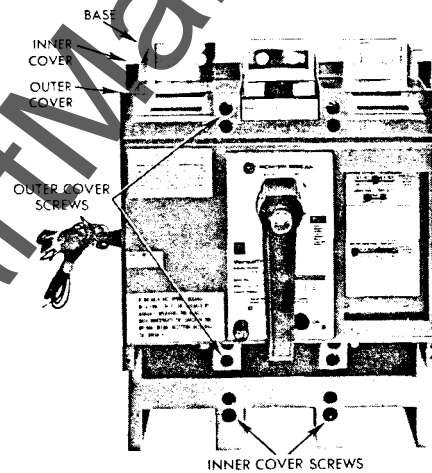

Fig. 7. 1200-1600A Frame Electrical Breaker
- a. 1200-1600A Frames only — Remove two inner cover mounting screws. (see Fig. 7).
- d. 1200A-1600A Frames only — Replace two (2) inner cover mounting screws, see Fig. 7. Tighten to 50-60 inch pounds torque.